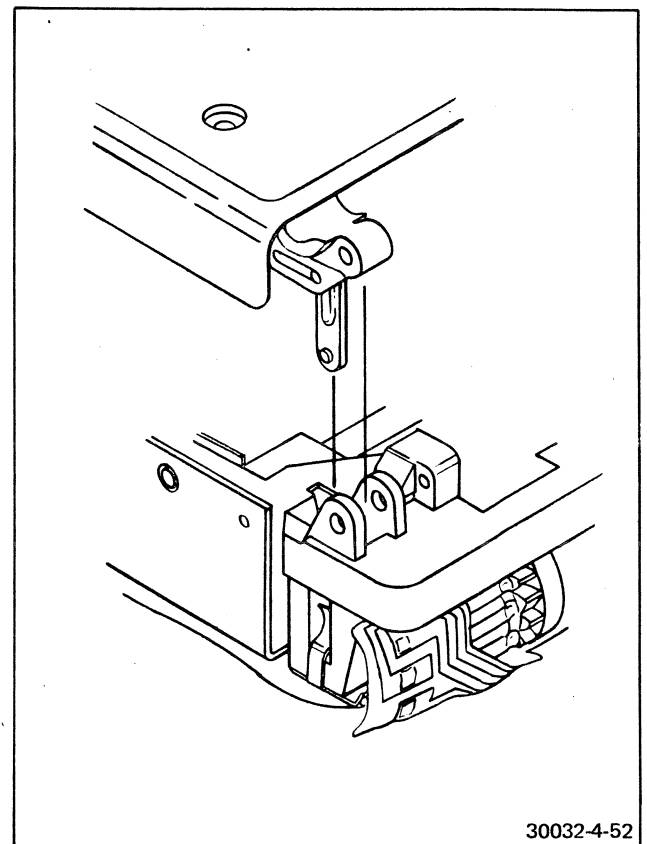

FIGURE 4-52 LOCATION OF S6 ACTUATOR LINK
13. Lower the housing so that the free-hanging actuator passes through the cutout in the inner frame assembly toward the S6 contacts. See Figure 4-52.